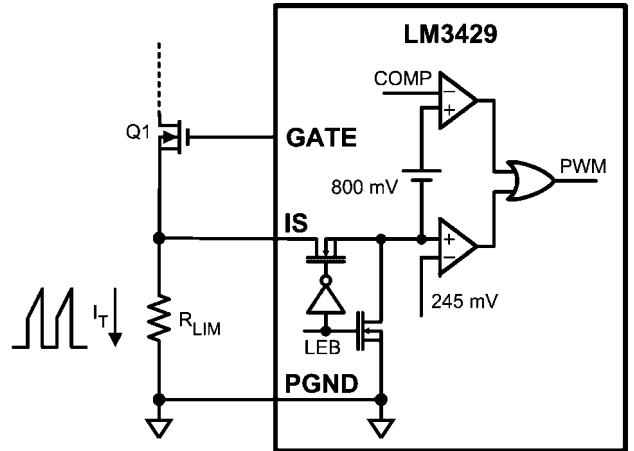

FIGURE 6. Current Sense / Current Limit Circuitry
The LM3429 achieves peak current mode control using a comparator that monitors the MosFET transistor current, comparing it with the COMP pin voltage as shown in Figure 6. Further, it incorporates a cycle-by-cycle over-current protection function. Current limit is accomplished by a redundant internal current sense comparator. If the voltage at the current sense comparator input (IS) exceeds 245 mV (typical), the on cycle is immediately terminated. The IS input pin has an internal N-channel MosFET which pulls it down at the conclusion of every cycle. The discharge device remains on an additional 250 ns (typical) after the beginning of a new cycle to blank the leading edge spike on the current sense signal. The leading edge blanking (LEB) determines the minimum achievable on-time (t_{ON-MIN}).